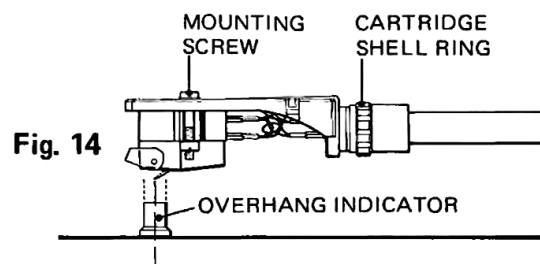

Fig. 14
- 4** Move the tone arm over the overhang indicator and adjust cartridge until the stylus point is located exactly above the overhang indicator. Fix cartridge in this location by TIGHTENING the mounting screws. (Fig. 14)